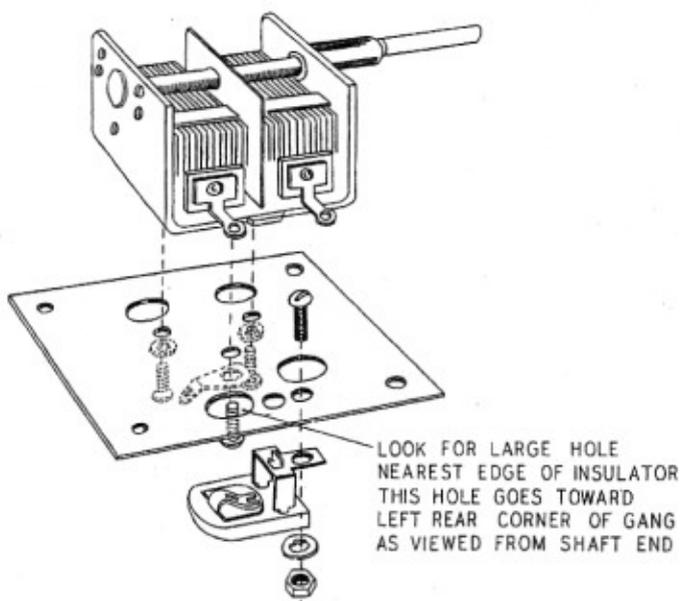

Fig. 3
- ( ) 8. Lay the chassis aside temporarily and assemble the variable condenser sub-assembly. Position the insulator plate as shown in Figure 3. Mount the condenser to the plate using 6-32 hardware. Don't forget the solder lug used under one of the screws. Then mount the ceramic trimmer below the plate. Be sure the positioning lug on the trimmer is fully inserted in the small hole before tightening the screw.